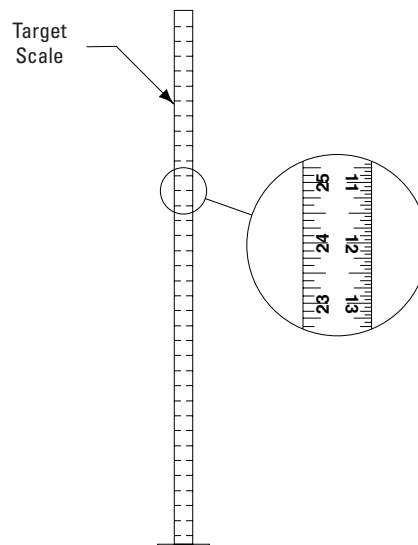
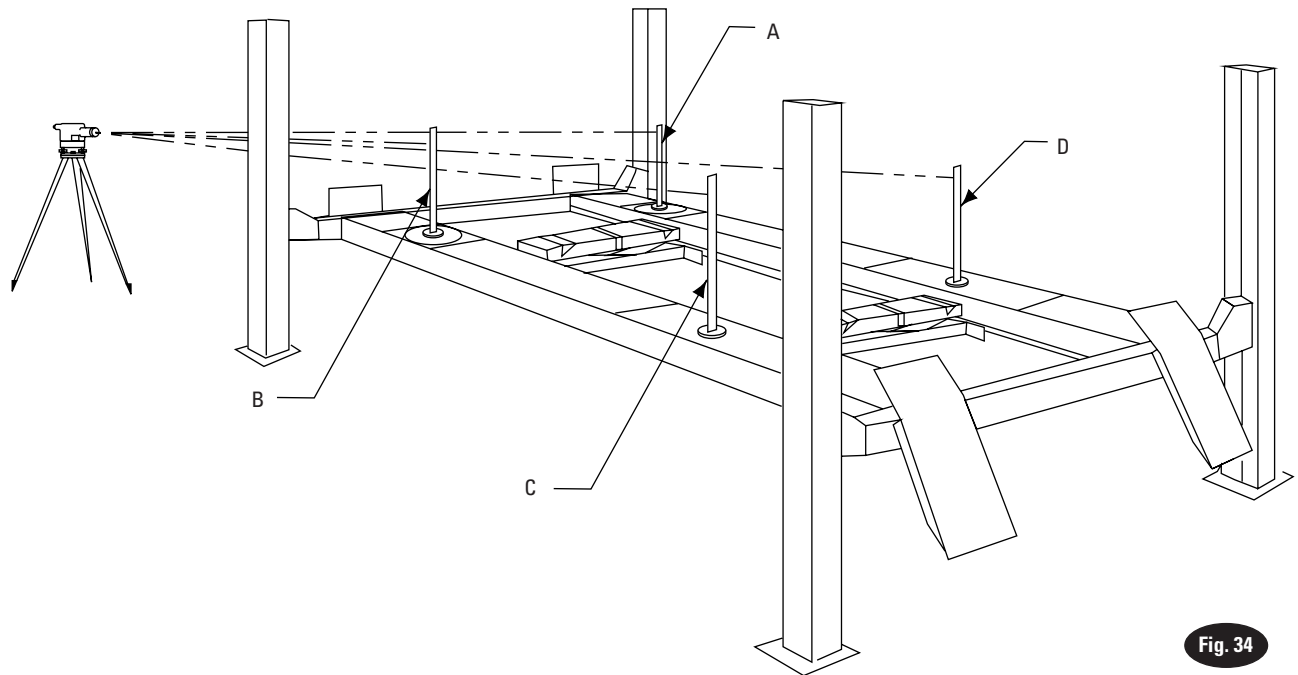

Fig. 33
Fig. 34
- D. Beginning with "A" position, Fig. 34, sight the Level to the target and mark the number or the graduation on the inch scale of the target that aligns to the cross hairs of the Level, Fig. 33.
- E. Next, move the target and place it on the turning radius gauge at point "B", Fig. 34.
- G. Adjust the adjustment nut on the locking latch plate adjustment stud at the top of the column at "B", Fig. 34, by loosening the jam nut and turning adjustment nut until the cross-hairs of Level align to reference mark on the target scale.